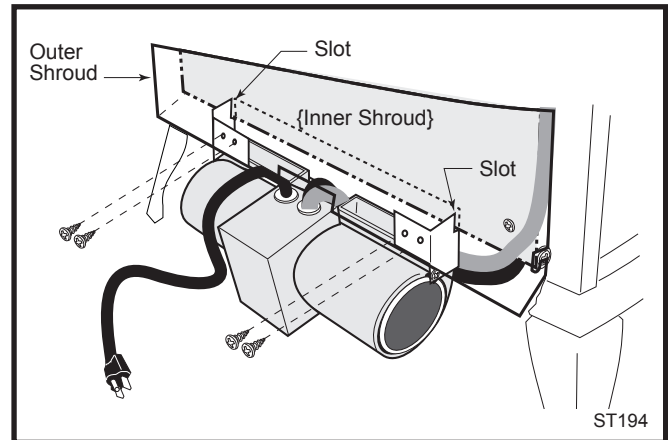

Fig. 11 Position the fan to engage the inner shroud with the fan bracket slots and secure with sheet metal screws.
6. Position the fan assembly so the ducts slide between the inner and outer shroud. The inner shroud should engage with the two slots in the ends of the bracket so that bracket and shroud are interlocked. (Fig. 11) Secure the bracket with the four sheet metal screws provided in the finish bag.